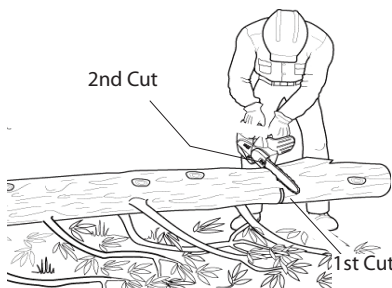

Figure 18 - Bucking Log When Log Is Supported On One End
1. Make first cut on underside of log (see Figure 18). Use top of guide bar to make this cut. Cut 1/3 through diameter of log. This cut will keep section from splintering when cut.